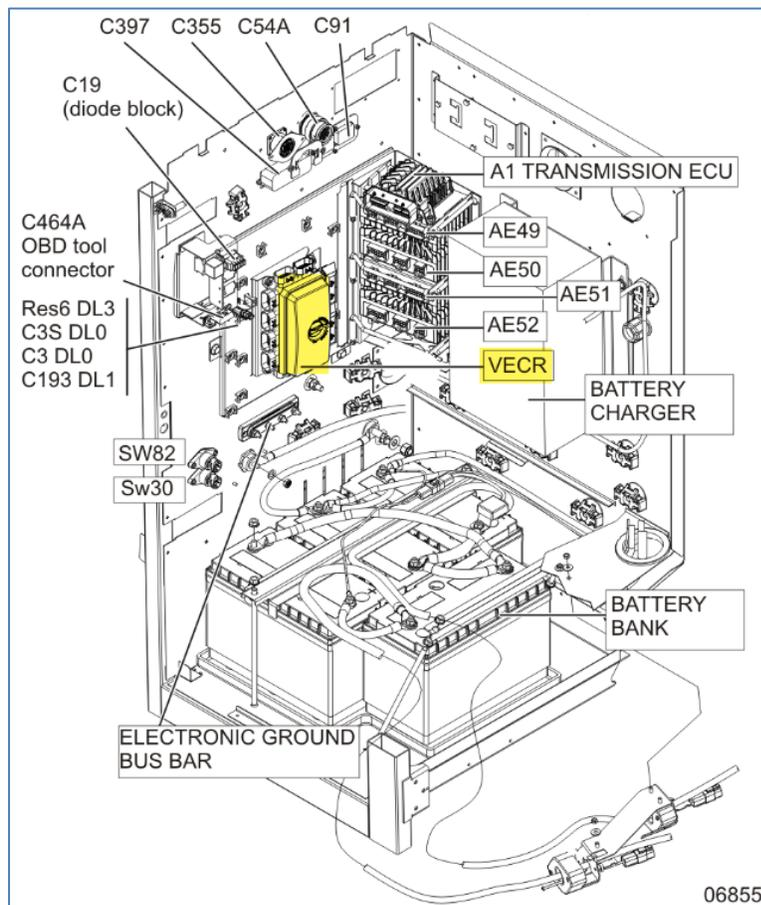

FIGURE 17
3. In the main power compartment, remove circuit 24Vi7 routed between connector C91 pin 61 cavity and the VECR connector 2 (red) pin A cavity (Figure 17 & Figure 18). Discard that section of the circuit.
9. In the VECR (inside main power compartment), replace fuse F51 with a 15-amp fuse 563284 (Figure 17).